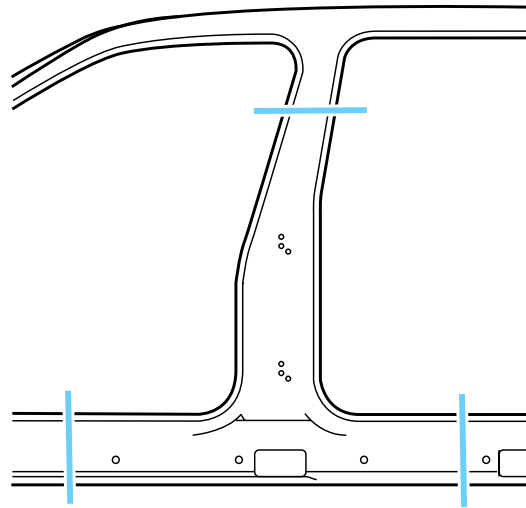

Fig. 1-5 — Outer Center Pillar - Sectioning Locations
1. Locate an approved sectioning area in the center pillar (Fig. 1-5).